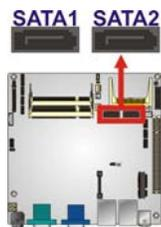

Figure 3-12: SATA Drive Connector Locations
- CN Location:** See Figure 3-12